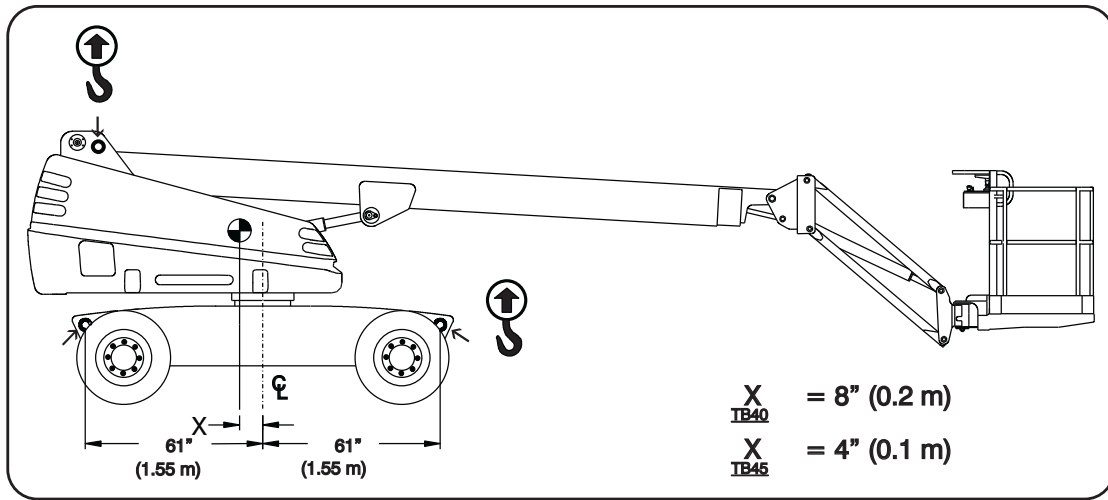
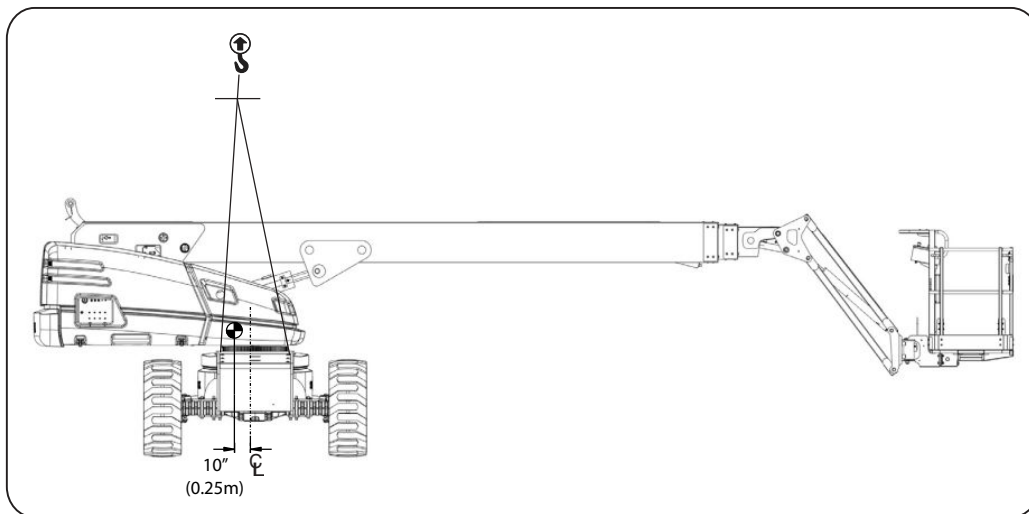

Figure 20 SJ40 T+ / SJ45 T+ lift points and approximate center of gravity
Figure 21 SJ61 T+ / SJ66 T+ lift points and approximate center of gravity
1. Rotate the boom and position the MEWP as shown in Figure 20 for SJ40 T+/SJ45 T+ or Figure 19 for SJ61 T+/SJ66 T+.
When you hoist the MEWP, the lifting devices must be attached to the designated lift points only. Refer to Figure 20 for SJ40 T+/SJ45 T+ or Figure 19 for SJ61 T+/SJ66 T+.
4. Attach the rigging to all four lift points as shown in Figure 20 for SJ40 T+/SJ45 T+ or Figure 19 for SJ61 T+/SJ66 T+.
5. Adjust the rigging to make sure the MEWP stays level when you hoist it. Refer to Figure 20 for SJ40 T+/SJ45 T+ or Figure 21 for SJ61 T+/SJ66 T+ for the center of gravity location.
Horizontally, the **center of gravity** is approximately in the middle of the MEWP, front to rear and side to side. Refer to Figure 20 for SJ40 T+ / SJ45 T+ or Figure 19 for SJ61 T+ / SJ66 T+. Vertically, the center of gravity is approximately a small distance above the chassis.